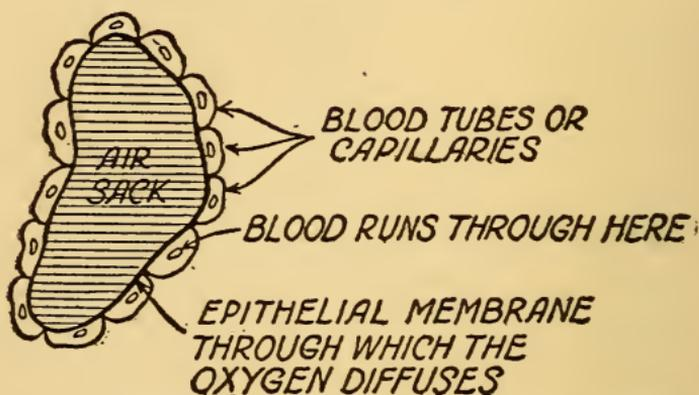

FIG. 5. DIAGRAM OF AN AIR SAC AND BLOOD TUBES, OR CAPILLARIES
*What Our Lungs Are For.*—A human lung is made up of thousands of little cells, or *sacs*, filled with air; in each of these sacs is one or more tubes called *capillaries*, each as fine as a hair and in which the blood flows. A magnified view of an air sac and a blood capillary is shown in Fig. 5.